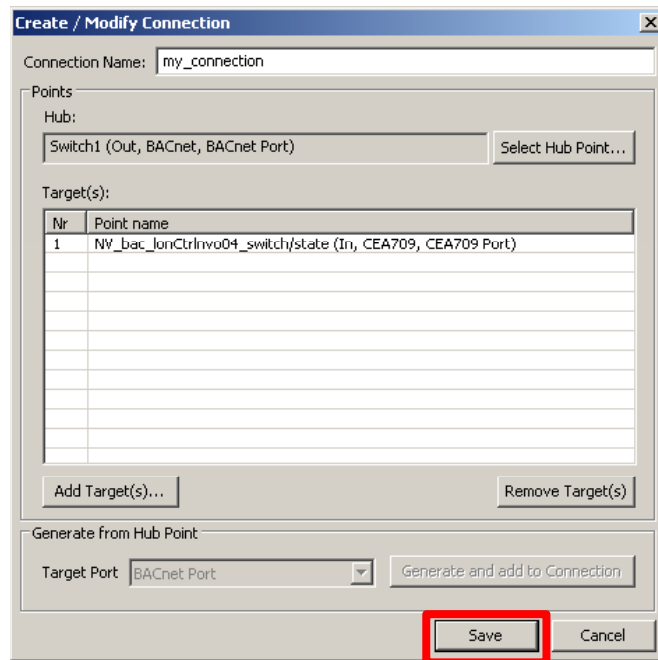

Figure 104: Connection dialog with hub and target points.
- Now the connection dialog contains a hub and one target data point as shown in Figure 104. Optionally, you may enter a connection name with a user-friendly text. By default, the name of the hub point is used. Then click on **Save** to save the created connection.